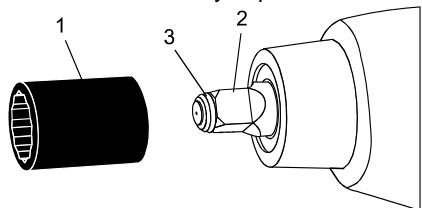

Fig. 1
To install a socket, press the square portion of the socket (1) onto the square drive (2) of the impact wrench (see Fig. 1). **NOTE:** Slide the socket fully onto the square drive so the socket retainer (3) will hold the socket firmly in place.